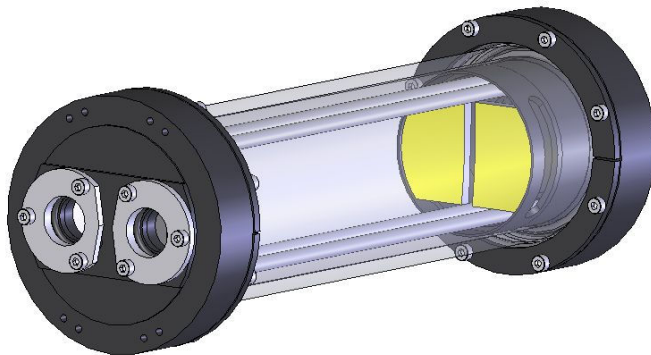

Fig 17. Bottom View of T5 Gas Cell Separated from Optical Unit Separating the T10 and T20 Gas Cell from their Optical Units
To carry out the procedure for unscrewing of the four screws (19) it is recommended to have the gas cell lying on its front, on a secure level workbench surface, to undo the rear screws and then turned over to lay on its back to undo the front screws. When the four screws (19) have been removed the gas cell can be separated from the optical unit. (See Fig 17 for resulting gas cell assembly).